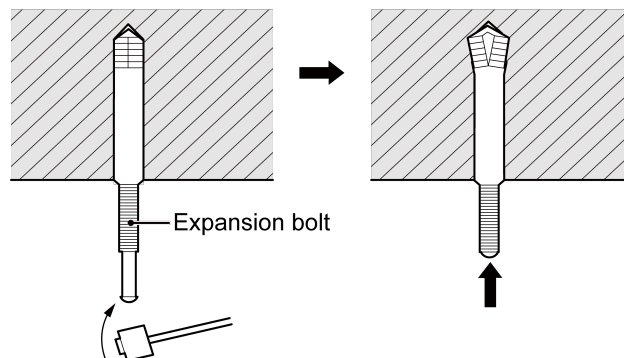

Fig.4.1.4
- 2) Insert the M10 expansion bolt into the hole and then knock the nail into the bolt, as shown in Fig.4.1.4, and then remove the paper pattern.